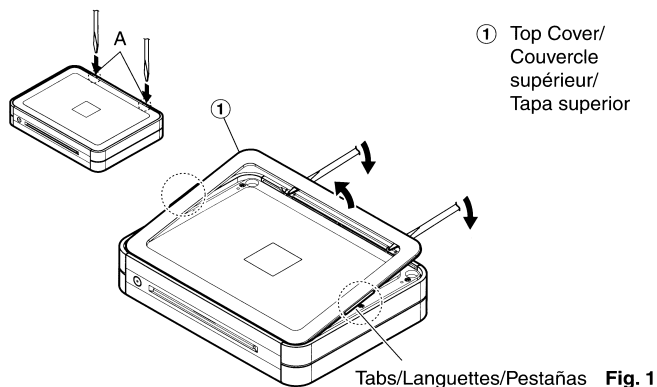
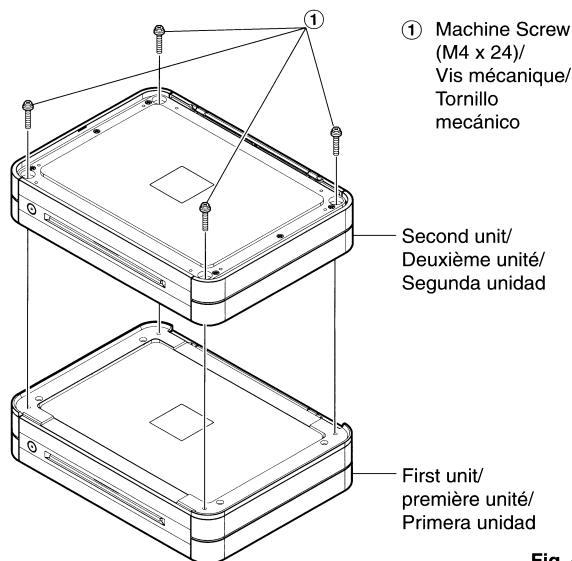

Fig. 1
Fig. 4
INSTALLATION (Fig. 1 - Fig. 4)
2. Remove the Top Cover by inserting a flat-tipped instrument (such as a panel removal tool or slotted screwdriver) into the 2 notches of the unit (marked A). If removal is still not possible, bend the Top Cover and remove the tabs on both sides. Refer to Fig. 1.
4. Attach the second unit with four Machine Screws M4 x 24 (*). Refer to Fig. 4.